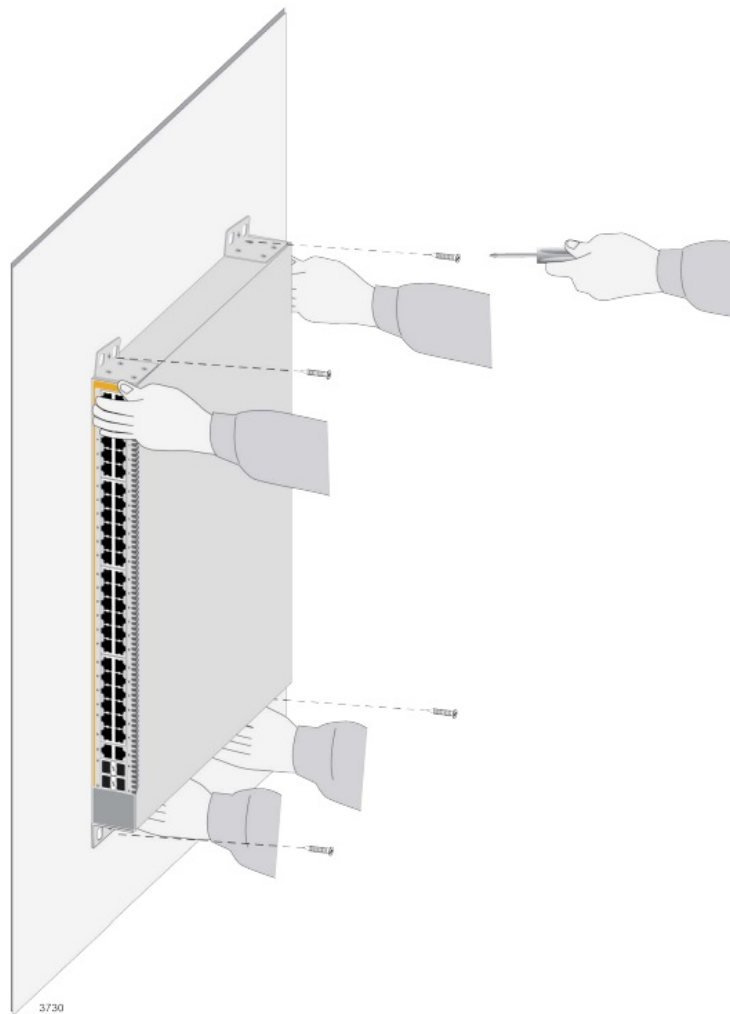

Figure 52. Installing the Switch on a Concrete Wall
7. Have two people hold the switch at the selected wall location while you secure it with the four provided screws. Refer to Figure 52.
Refer to Figure 52.